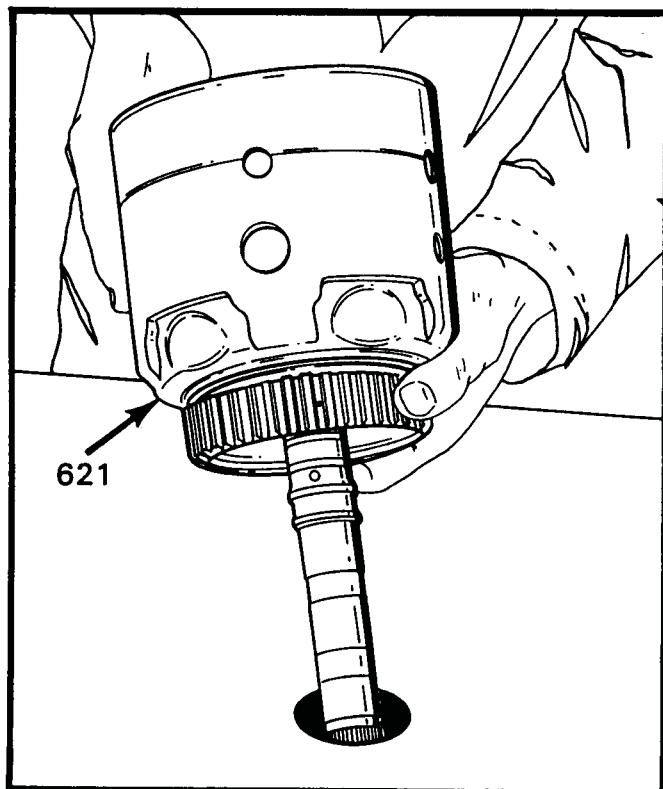

Figure 107
2. Place the input housing assembly on the bench, with the turbine shaft through a hole in the bench (See Figure 107).
2. Position the input housing on bench with the turbine shaft through a hole in the bench (See Figure 107).